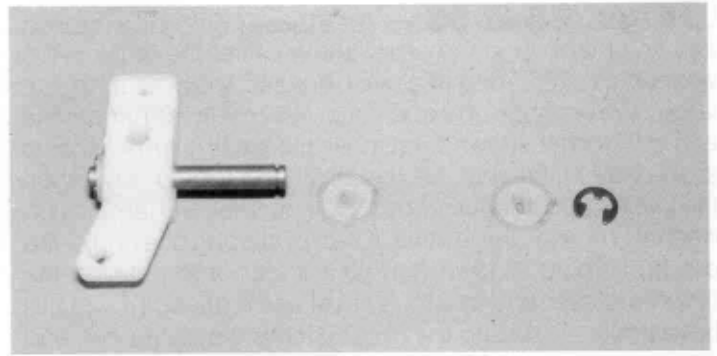

Fig. 50
□ **Figs. 50 & 51**— We'll install the front wheels now. First look at the center of the front wheels, where the ball bearings go in. You'll notice the wheel is shaped differently where the ball bearings go in. The smooth side is the outside. The side that is indented for the ball bearing is the inside. Push the four ball bearings into the wheels.
As shown in Fig. 50, slip one of the small plastic washers onto each axle. Then slip the wheel on, then another plastic washer, then an "E"-clip.